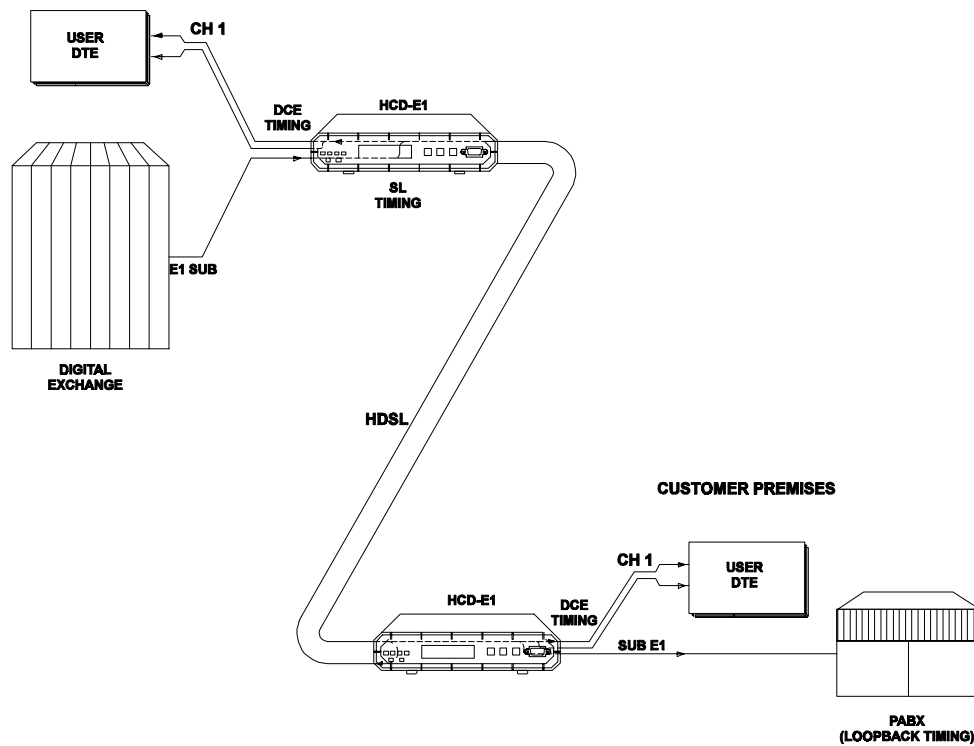

Figure 1-8 Sublink Timing, Flow of Timing Signals in a Typical Application
*Figure 1-8* shows a typical application which uses the sublink as the timing reference source, and illustrates the flow of timing signals within the system.
In the application shown in *Figure 1-8*, a PABX is connected by a HDSL link to a digital exchange, and must therefore use the exchange timing. For this purpose, the HCD-E1 unit connected to the exchange uses the clock signal recovered from the sublink as the system timing reference, and HCD-E1 located on the customer's premises uses main link timing (LBT).